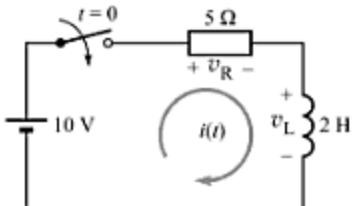

Fig. E-12
- E-5. The switch in the circuit shown in Fig. E-12 is closed at  $t = 0$  s. Determine (a) the voltage  $v_L$  across the inductor, and (b) the initial rate of increase of the current  $i(t)$ .